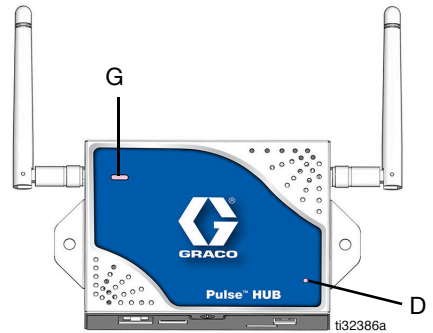

FIG. 5
Once the Pulse HUB is installed, verify that the power light (D) (FIG. 5) is ON and the HUB is functioning correctly.
The status of the Pulse Fluid Management Software is indicated by the HUB Status Light (G) (FIG. 5). See HUB Status Lights table below for diagnostic definitions.